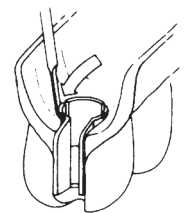

Fig. 21
4. If necessary, increase the retention by gently bending the female retention flanges inward (Fig. 21).